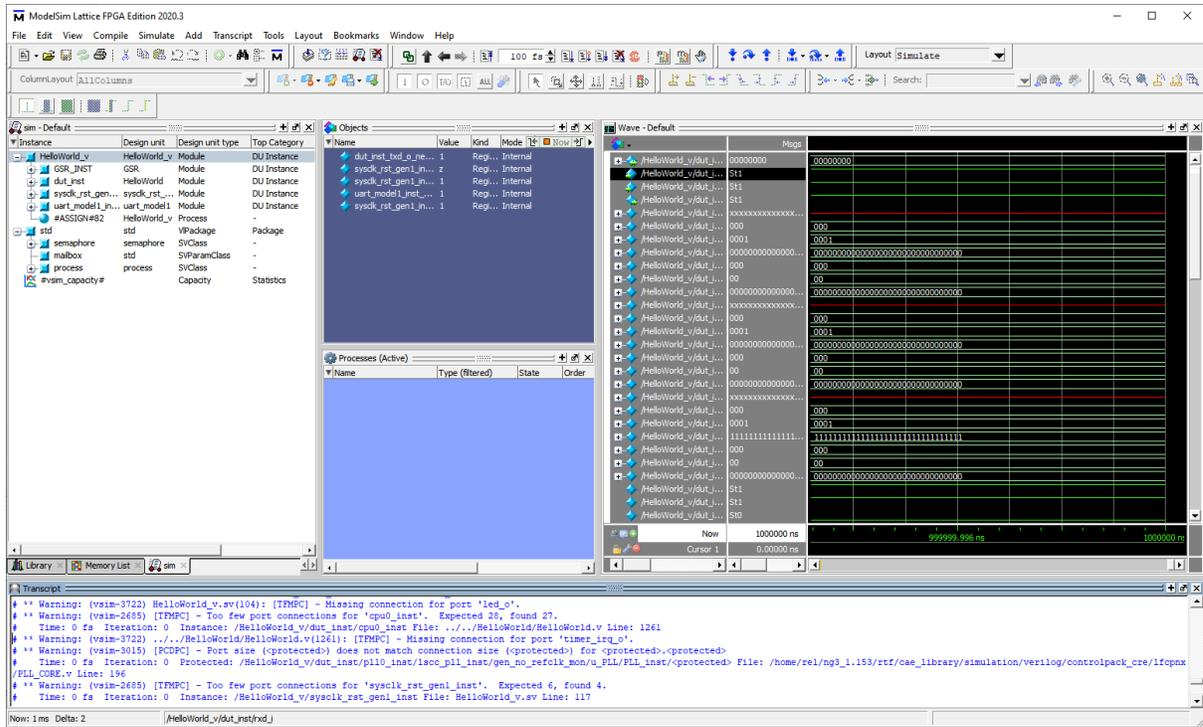

Figure 2.94. Simulation GUI
2. The default simulation tool, ModelSim, OEM version, opens (Figure 2.94).